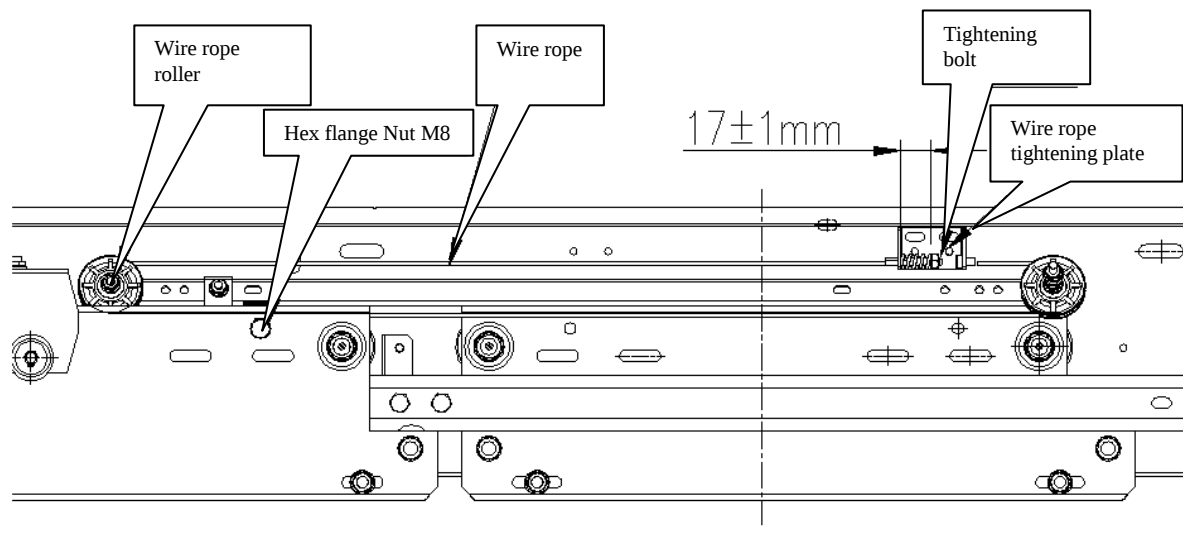

Figure 6-1 Wire rope tension adjustment drawing
- 6.2 Check the tension of the wire rope for each maintenance, refer to Figure 6-1.